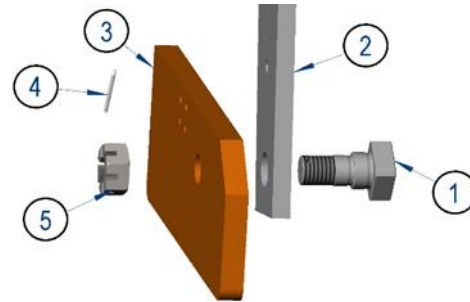

Figure 8.24: Drive arm movement
The arm of the short-circuit bushing must be fixed with a shaft, a castle nut and a cotter pin. The castle nut (5) must be tightened so that the arm (2) is not locked, allowing its free movement in the radial direction. See Figure 8.24.
Figure 8.24 legend: